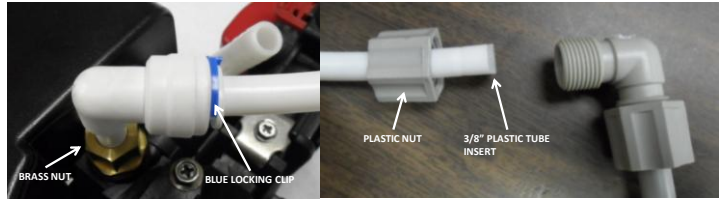

Figure 1. Brine Line Connections
3. Connect the brine line from the valve to the air check / safety elbow as per figure 1. **Double check to make sure all connections are assembled correctly and the brass and plastic nuts are tight and secure to prevent leaks.**